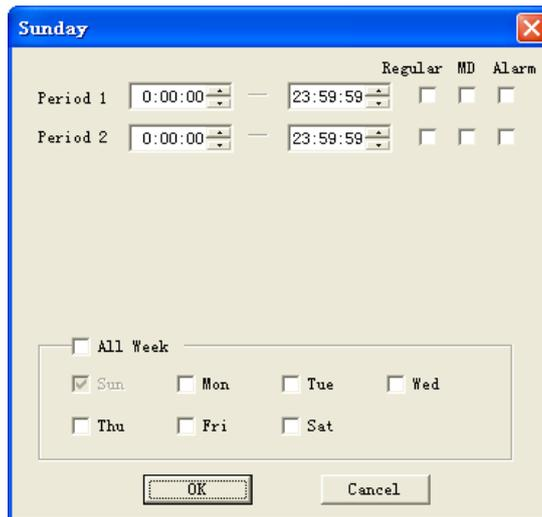

Figure 6-35
- Time period: Click set button, you can an interface as in Figure 6-35. You can check the box to select the file type. System supports multiple choices.